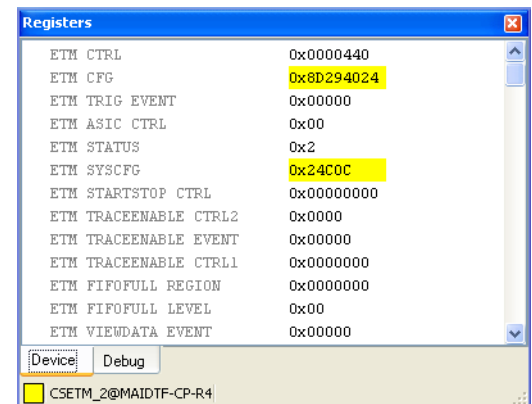

Figure B-3 CSETM registers in the Registers view
- b. Set up the CSETM registers. Figure B-3 shows an example: